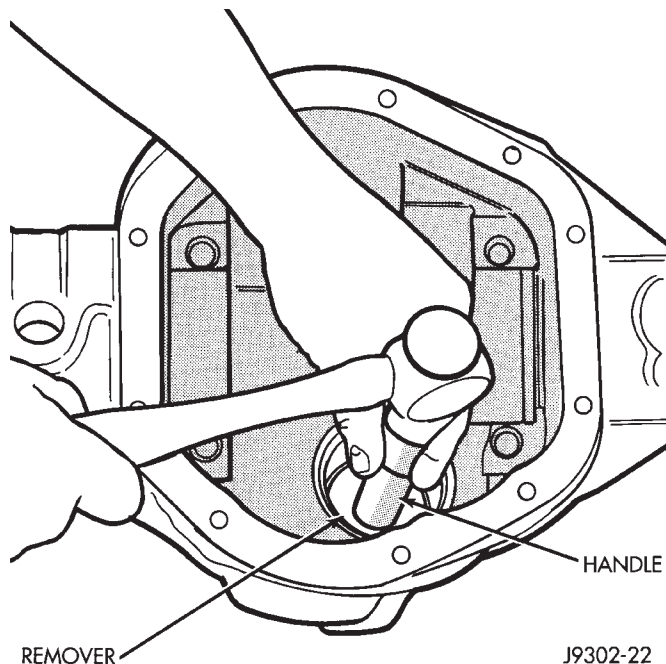

Fig. 27 Front Bearing Cup Removal
(4) Remove the pinion gear seal with a slide hammer or pry out with bar.
(5) Remove oil slinger, front bearing.
(6) Remove the front pinion bearing cup and seal with Remover D-103 and Handle C-4171 (Fig. 27).